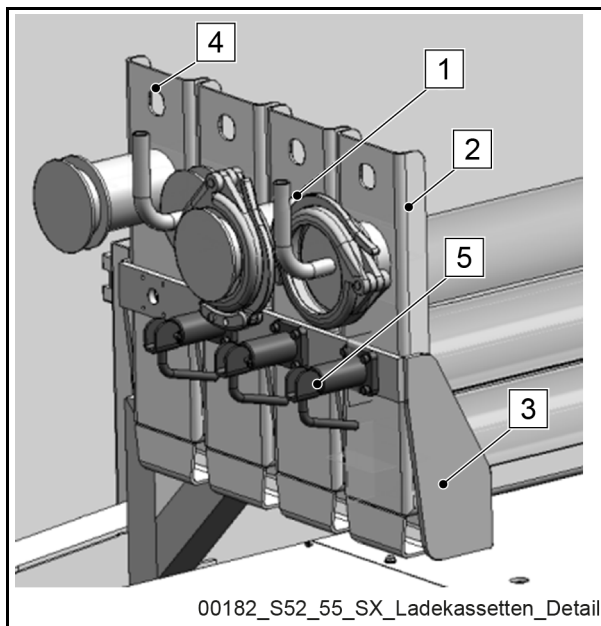
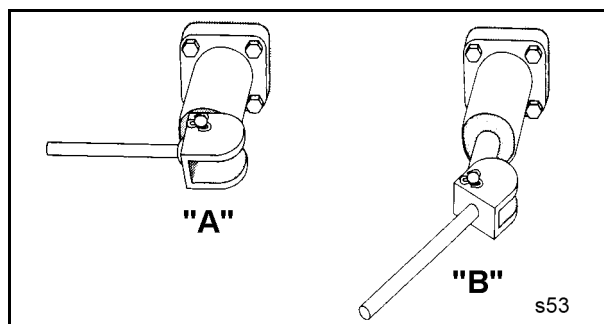

Fig. 491 Stowing cassette components
Fig. 492 Example: Transport safety device
The stowing cassette may only be placed on the machine on the associated carrier system (**Fig. 491**).
The girders (3) (Fig. 491) serve as brackets for the tube girders (2). These girders guide the cassettes upon positioning on the carrier system and keep them in place during the drive. The bolts of the transport safety devices (5) are located on the side of the girders (3).
Caption (Fig. 491)
- Fasten the lifting gear to the bores (4) (**Fig. 491**) and loosen the transport safety devices (5) (**Fig. 491**) and (**Fig. 492**).
- Loosen the transport safety devices (5) (**Fig. 491**).
- When positioning the stowing cassette, make sure that the tube girders (2) first slide over the receivers of the girders (3). Upon further lowering, the tube girders (2) are then taken up by the corresponding girders (3).
- After lowering the stowing cassette, insert the transport safety devices (5) and remove the lifting gear.